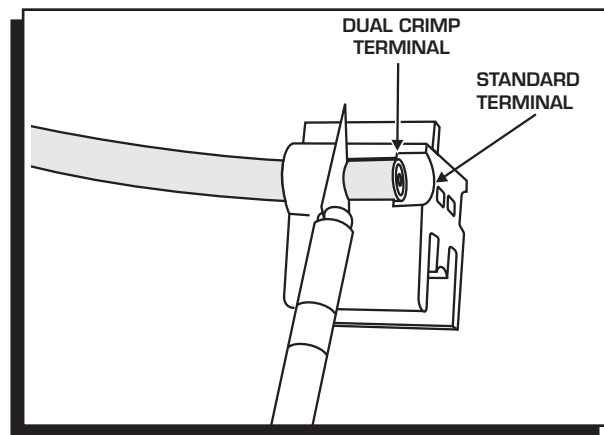

Figure 5 Stripping the Sleeve.
2. There are two stripping positions indicated on the stripping slot, depending on the terminal being used. Slide the wire to the correct position and strip the sleeve by holding a razor blade flush with the strip guide and rotate the wire 360° (Figure 5).